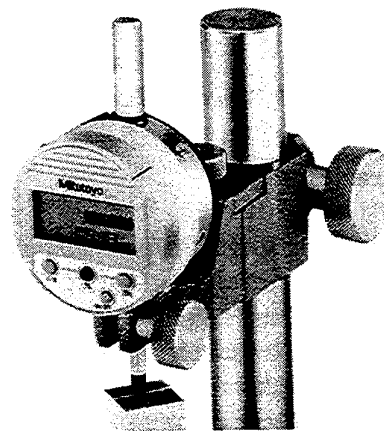

Fig. 17 Digimatic Indicator IDA
5.4.3 Digimatic Indicator IDA (Fig. 17)